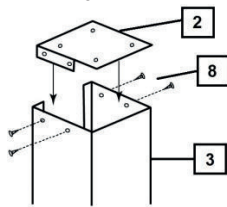

Fig. 28.
- a) Install the HOR 1 top profiles (straight cut) at the top of the central columns, photos 20 and 21, and align the extremes on the top plate, fig. 28. Set up the screws and bolt them without pressing on. The 550x366 pools are not equipped with a HOR1 profile, so you must start with the HOR2 profile (section b).